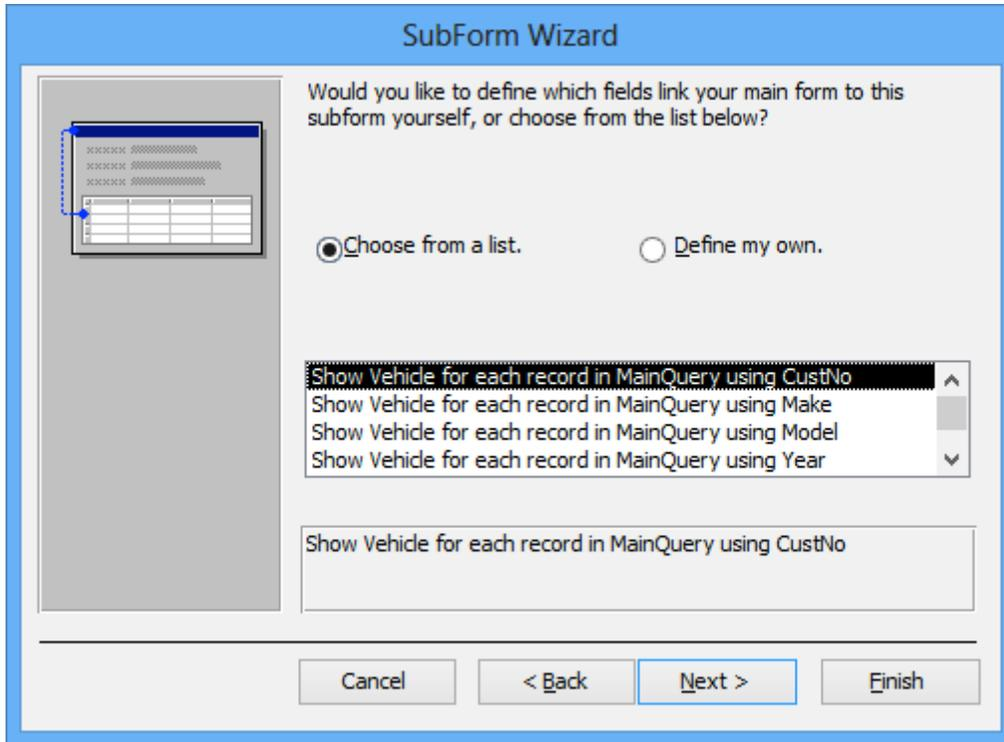

Figure 34: Define Fields to Link Main Form and Subform
3. **Define Fields to Link Main Form and Subform:** Select the first choice from the list (Figure 34) and click **Next**.